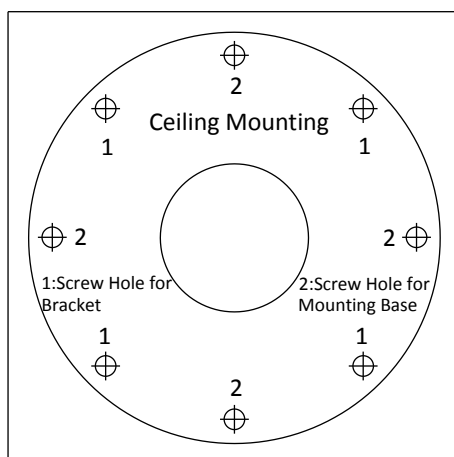

Figure 5-28 Drilling Holes in the Wall
2. Drill holes in the wall according to the No.2 holes of the drill template. Refer to the Figure 5-28.